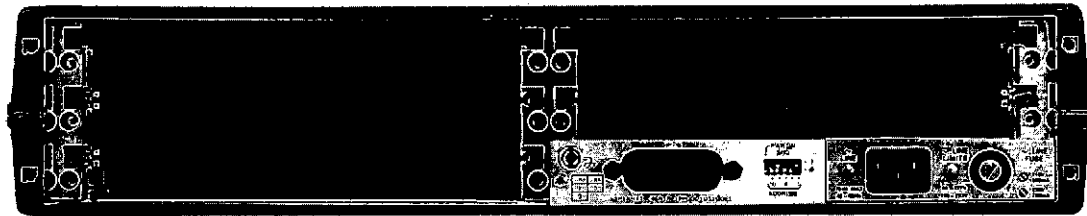

Figure 8-2. Rear Panel View of the 3488A
- c. Select a slot. Refer to Figure 8-2, the 3488A has five slots for installing option assemblies. The 44472A can be used in any of the five slots.